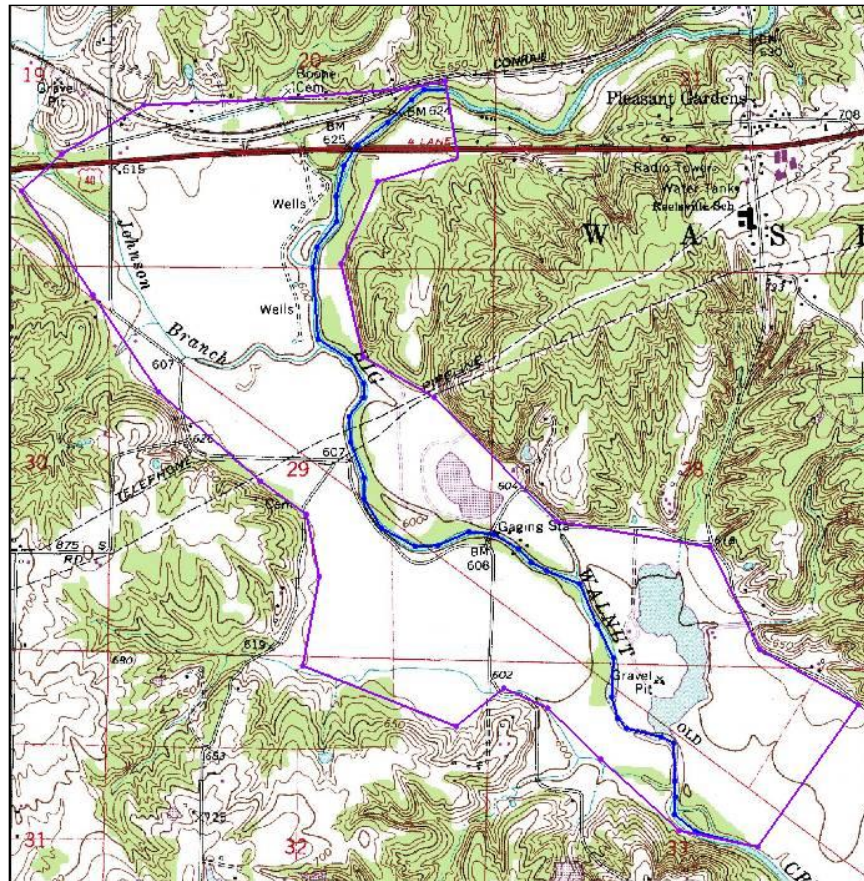

Figure 6 Modeling the river
5. Select the **Create Arc**  tool and click out the river arc starting near the northern specified head boundary and ending near the southern specified head boundary, as shown in Figure 6 below. Don’t extend the river beyond the boundary coverage.